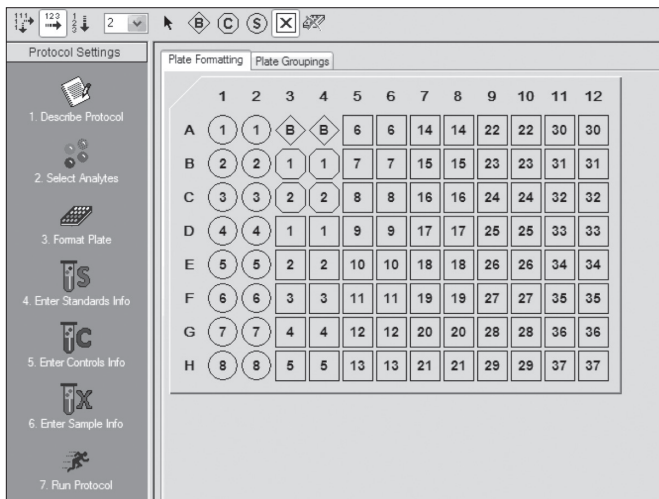

Fig. 4. Plate formatting.
3. Click **Format Plate** and format the plate according to the plate layout template (located at the back of the manual) created for the assay. To modify the plate layout, follow the steps below (see Figure 4).
- b. Select the standards icon (S) and drag the cursor over all the wells that contain standards. Repeat this process for blanks (B), controls (C), and samples (X).